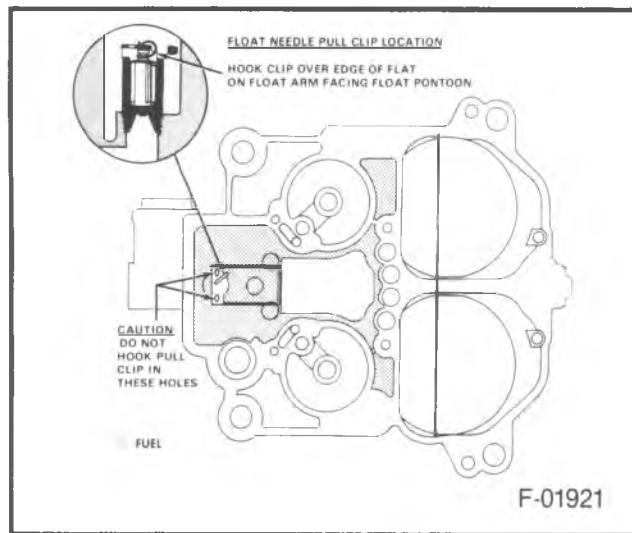

Figure 34 -- Float Needle Pull Clip Location
- A. Float needle pull clip (238) to float needle (239).
- B. Float needle onto float lever as shown in Figure 34.
- C. Hinge pin (236) through float lever.